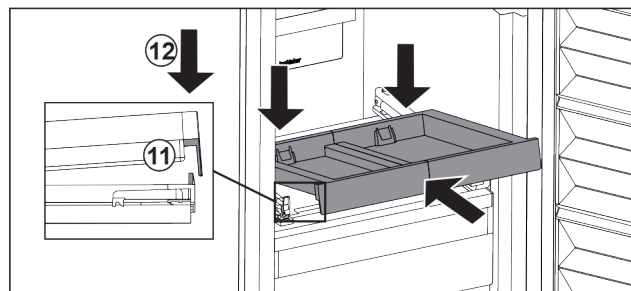

Fig. 97
- ▶ Slide it in at an angle. Make sure that the stop is behind the lug on both sides. *Fig. 97 (11)*
- ▶ Lower the pull-out board at the front. *Fig. 97 (12)*